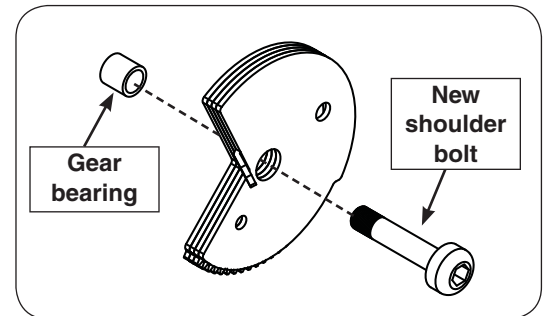

Fig. 3-3 Assemble lid gear
- Assemble the lid gear, gear bearing, and the shoulder bolt (provided in kit) as shown in Fig. 3-3.